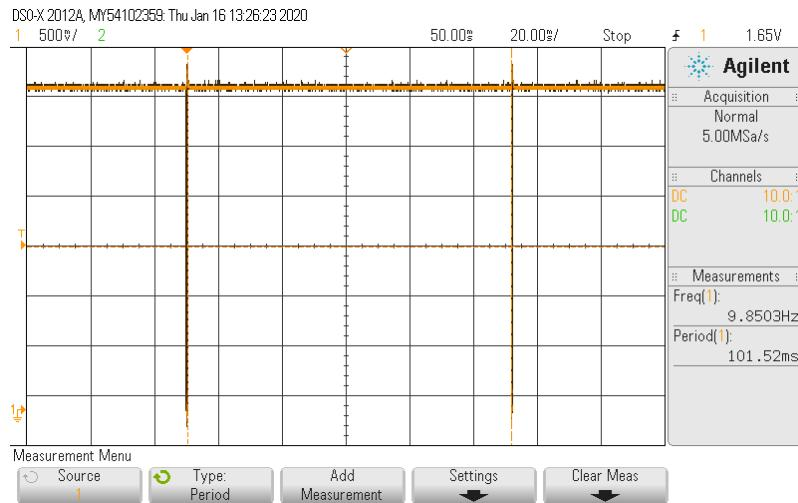

Figure 11.2: OpenOCD polls every 100 ms while connected. Note, zooming in on the spikes reveals serial data packets.
1. Check the SWCK signal. OpenOCD periodically polls to see if the SAM4S is alive. These occur every 100 ms, see Figure 11.2. OpenOCD polls less often when it does not get a response. The period increases to 6.3 s.